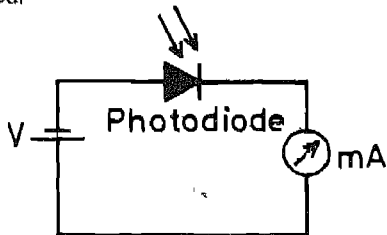

Fig. 6.9
**Procedure** 1. Connect the circuit as shown in Fig 6.9. Note that the photodiode is reverse biased.